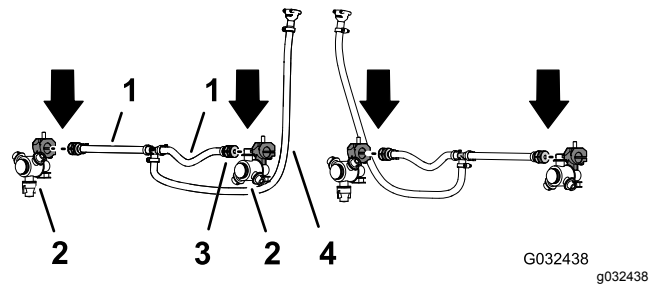
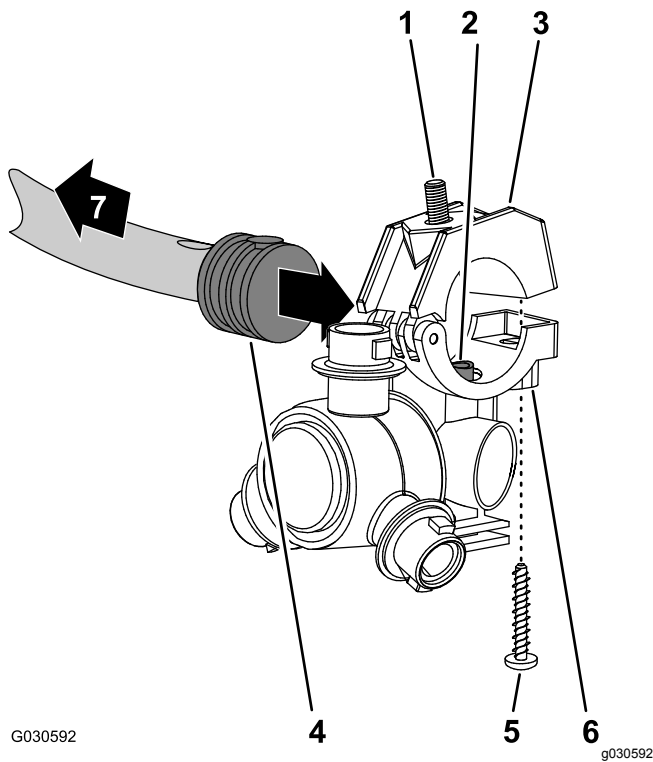

Figure 58
Figure 57
- Working with the 2 sprayer nozzle from the GeoLink spray system finishing kit, remove the stainless steel screw that secures the upper clamp half to the saddle (Figure 57).
- Locate the hole in the side of single barbed-hose shank at the end of the hose 25 cm (10 inches) of the hose assembly (sprayer valve 5 or 6) for the center-spray section (Figure 57 and Figure 58).
- Align the transfer tube in the saddle of a sprayer nozzle (Figure 57) with the hole in the side of the single barbed-hose shank (1/2 inch).
- Close the upper clamp half around the barbed-hose shank and secure the clamp half and spray-nozzle body (Figure 57) with the stainless steel screw (#12 x 1-1/4 inches); torque the stainless steel screw to 14 to 18 N·m (20 to 25 in-lb).
- Working with the sprayer nozzle, hex-head bolt, and stainless steel screw that you removed in steps 1 and 2 of Removing the Sprayer Nozzles (page 26), repeat steps 3 through 5 to the single barbed-hose shank (Figure 57 and Figure 58) at the end of the other hose 25 cm (10 inches).
- Working with the 2 sprayer nozzles that you removed in step 4 of Removing the Sprayer Nozzles (page 26), repeat steps 3 through 5 to the single barbed-hose shanks of the other hose assembly (sprayer valve 5 or 6) for the center-spray section (Figure 57 and Figure 58).